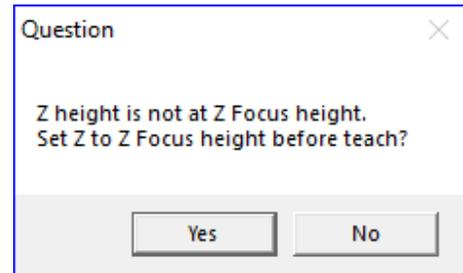

Figure 8-1: Prompt for Z Focus Height Position
- If the robot is not at Z Focus height when teaching an XY location, DispensePro issues the prompt in Figure 8-1.